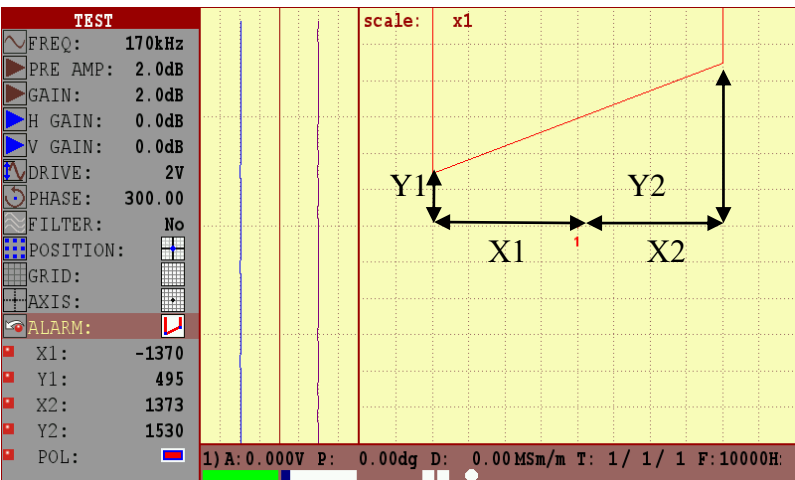

Figure 17 – Threshold level setup "Type: "
To set up trapezium type frame, operator should select "Type: " in special item of settings ALARM-  (see Figure 17).
"X1:" parameter variation allows changing the angle position of threshold level in X1-direction. X1 parameter variation is carried out in the range from - 32768 to 0 with a step of 1, 10, 100, 1000, 10000 (see Figure 17).
"X2:" parameter variation allows changing the angle position of threshold level in X2-direction. X2 parameter variation is carried out in the range from 0 to 32768 with a step of 1, 10, 100, 1000, 10000 (see Figure 17).
"Y1:" parameter variation allows changing the angle position of threshold level in Y1-direction. Y1 parameter variation is carried out in the range from - 32768 to 32768 with a step of 1, 10, 100, 1000, 10000 (see Figure 17).
- 32768 with a step of 1, 10, 100, 1000, 10000 (see Figure 17).